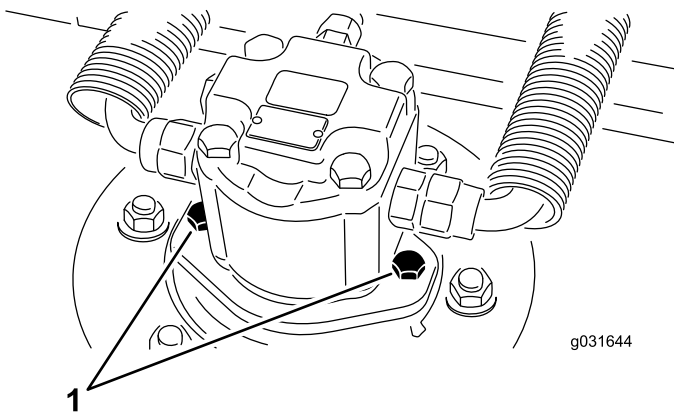

Figure 68
2. Remove the hydraulic-motor-mounting screws and disconnect and remove the hydraulic motor from the deck (Figure 68).
4. Using the hydraulic-motor-mounting screws, install the hydraulic motor to the deck (Figure 68).